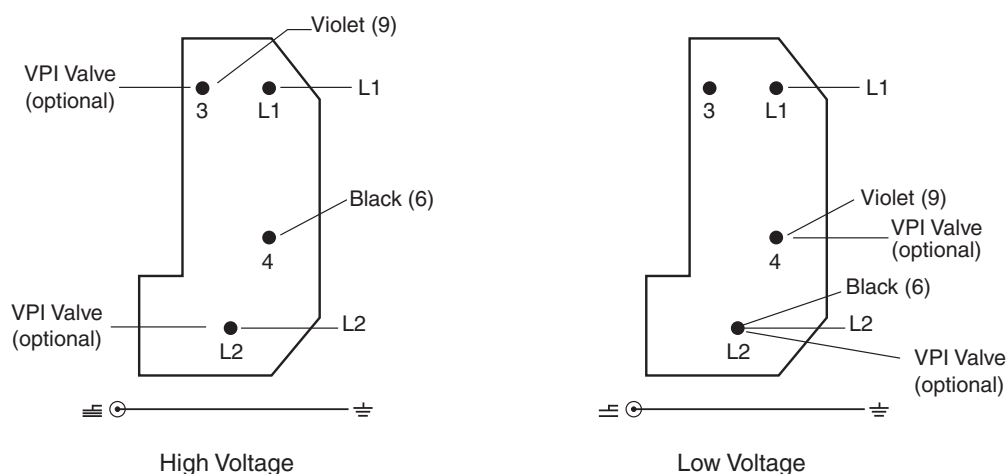
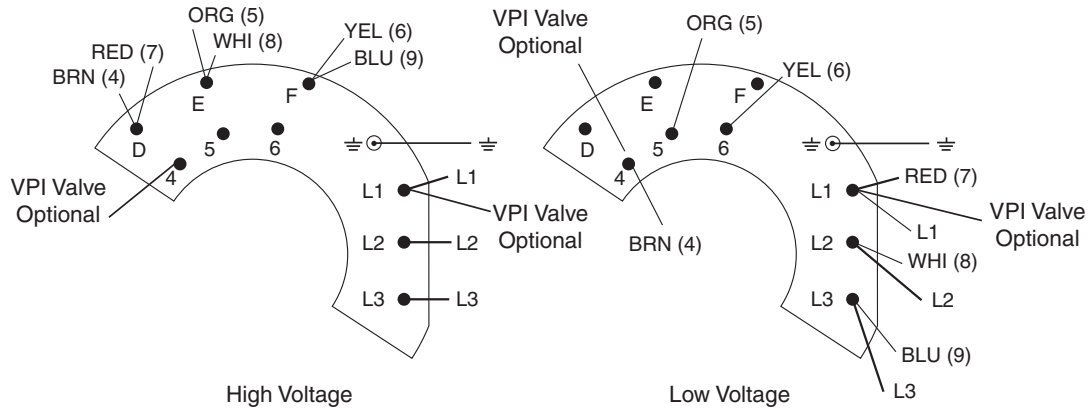

Figure 4 Single Phase Motor Electrical Connections
Figure 5 Three Phase Motor Electrical Connections
The pump can be configured for low voltage, 100 VAC to 115 VAC, or for high voltage, 200 VAC to 230 VAC. Low voltage exists between connection points "4" and "Line 2" whether the pump motor is configured for low or high voltage. Figure 4 shows the electrical connections for a single phase motor.
3. Refer to Figure 4 to connect the motor to match your supply voltage.
4. Wire L1 and L2 per Figure 4 using right angle flag connectors or ring connectors. Ensure that no exposed wiring is close to the electrical cover or to other terminals on the board.
6. Replace the motor electrical cover and secure it with three (3) screws removed in step 2.
The pump can be configured for low voltage, 200 VAC to 230 VAC, or for high voltage, 380 VAC to 415 VAC and 460 VAC. As supplied from the factory, the pump is configured for low voltage. Figure 5 shows the electrical connections for three phase motor.
3. Refer to Figure 5 to connect the motor to match your supply voltage.
4. Wire L1, L2 and L3 per Figure 5 using right angle flag connectors or ring connectors.
Using the data in Table 19, verify that the VPI Valve chosen is compatible with the TriScroll supply voltage and frequency. Then, locate the proper wiring diagram to use (Figure 4 on page 36 or Figure 5 on page 37).
2. Connect the VPI Valve solenoid wire leads to the pump motor as shown in Figure 4 or Figure 5.